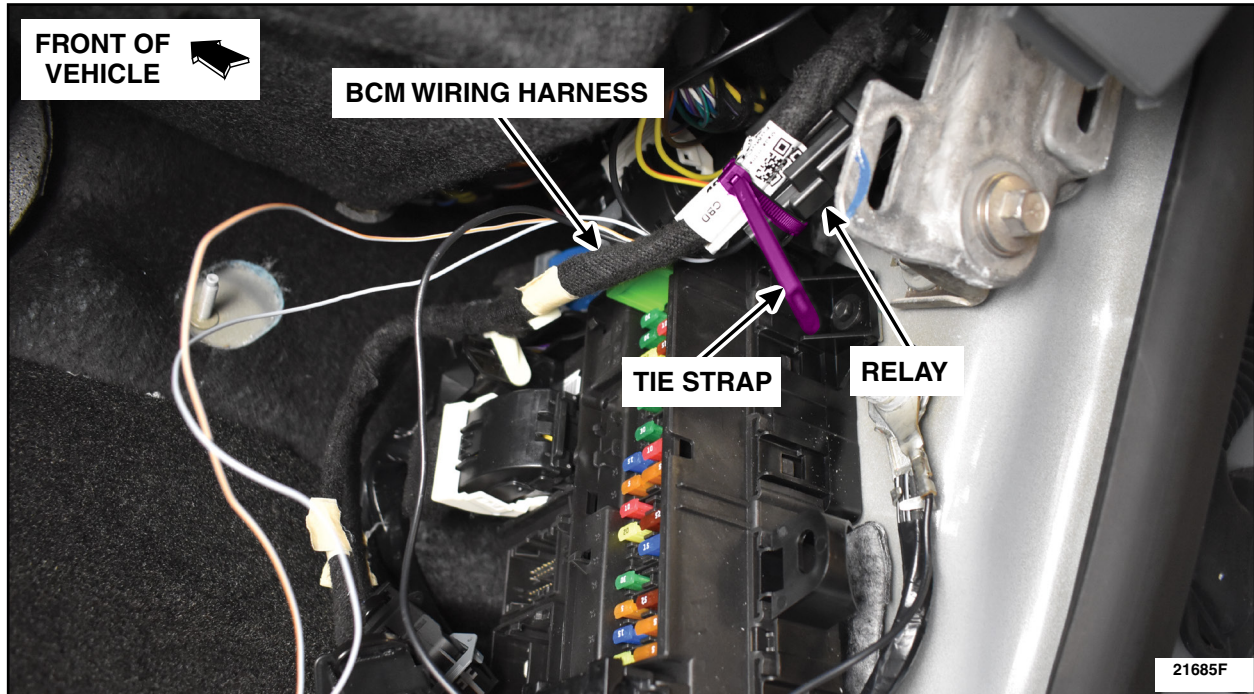
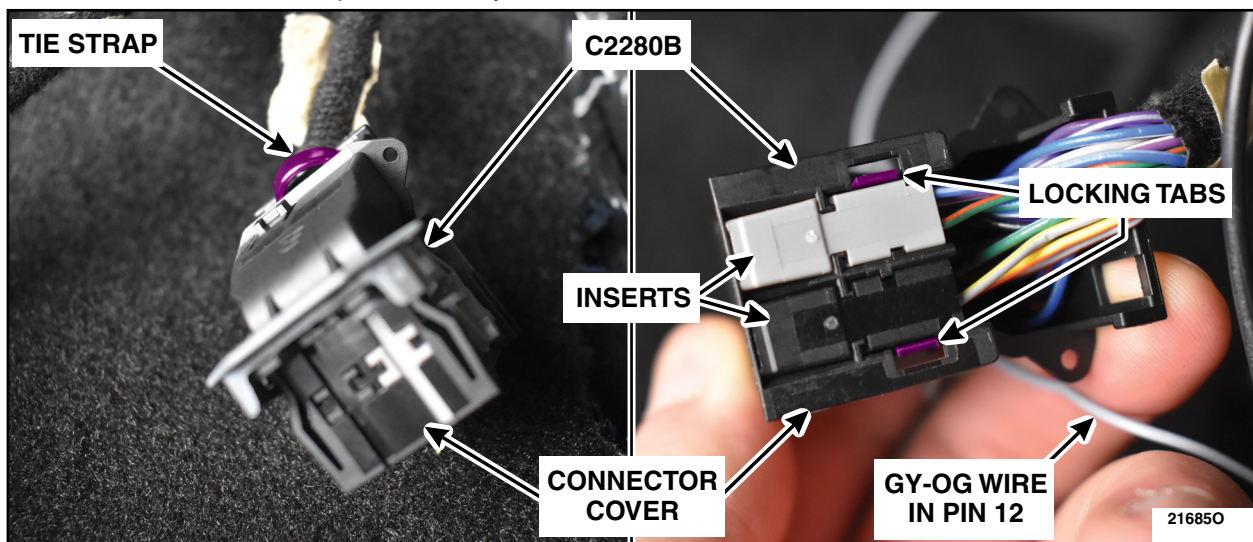

FIGURE 4
FIGURE 14
**NOTE:** *Service Procedure Steps on Page 6, Step 8, Figure 4 through Page 11, Step 18, Figure 14, and Page 19, Step 35, Figure 30 through Page 29, Step 50, Figure 47 can be skipped if the wires are in the correct pin locations for ALL 3 of the following inspections. ALL of the Service Procedure Steps listed above will need to be completed if any one of the circuits in Steps 1, 2, or 3 are missing. This may require depinning circuit(s) to install the Relay Harness and Body Length Harness.*
8. Place the Relay Harness, included in the kit, onto the Body Control Module (BCM) wiring harness and secure using a tie strap. See Figure 4.
18. Install the Grey-Orange (GY-OG) wire from the relay into C2280B. See Figure 14.